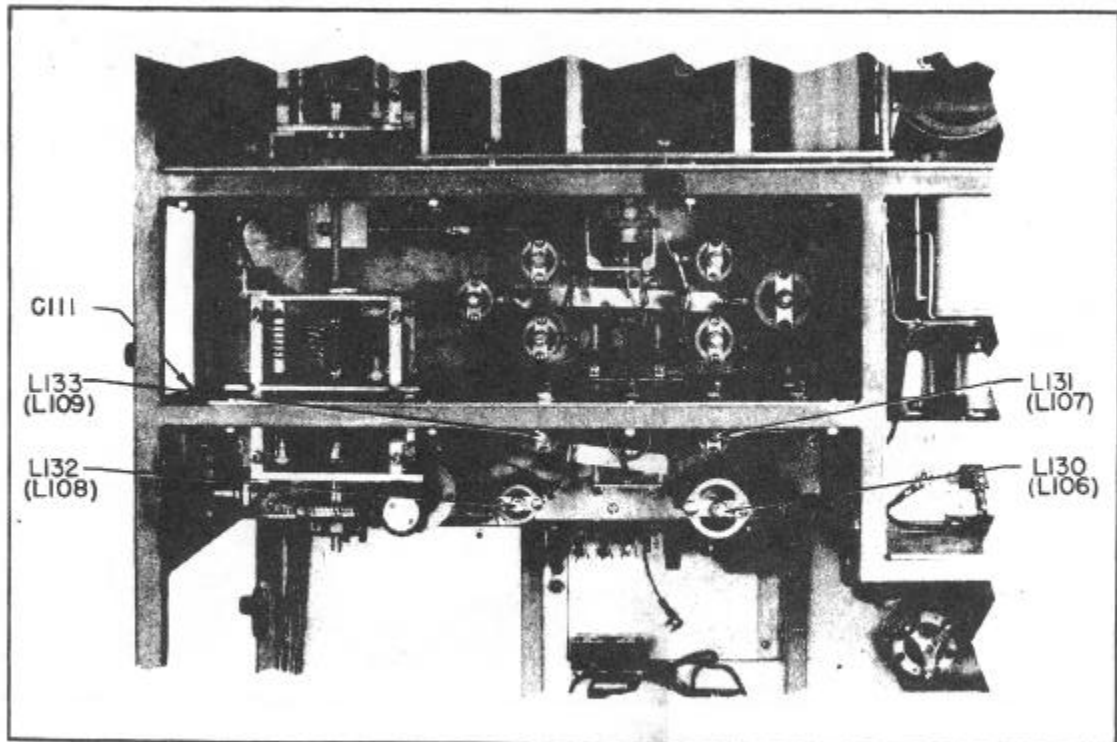

Figure 7-13—Work Circuit Adjustments
(15) When properly aligned, the inductance adjusting screws should be restaked with Glyptal and C104 should be relocked.
(16) Bands "3" and "6" require no m-o line-up since the master oscillator uses the same coil for "BAND 3" that it does for "BAND 5" and the same coil for "BAND 6" that it does for "BAND 4."
**c. Line-Up of the Work Circuit.** (See Figure 7-13.)
(1) Make the following dial settings.